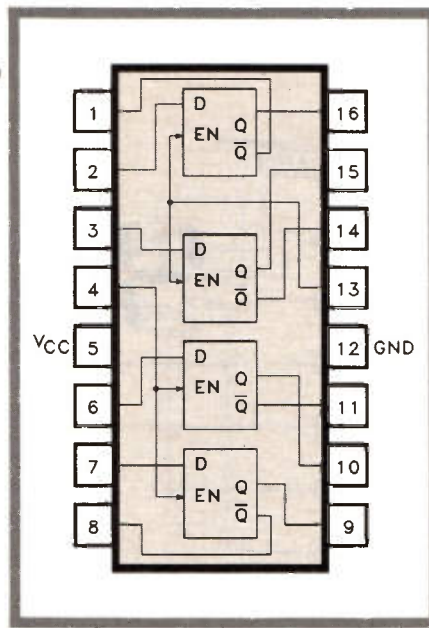

Figure 6. Pin-out diagram for the 7475 4-bit latch IC.
The 7475 IC (the pin-out diagram is shown in Figure 6) is an example of a 4-bit latch that could be used in this type of application. Each latch in this IC can be regarded as an unlocked D-type flip-flop, that is, it has a data (D) input and Q and \bar{Q} outputs; in addition it has an 'enable' input which, when taken high, updates the latch contents, freezing this value when taken low again. In this particular IC the D flip-flops are in pairs as far as the enable line is concerned. Therefore, to use it as a 4-bit latch, it is necessary to parallel the enable inputs (pins 4 and 13).